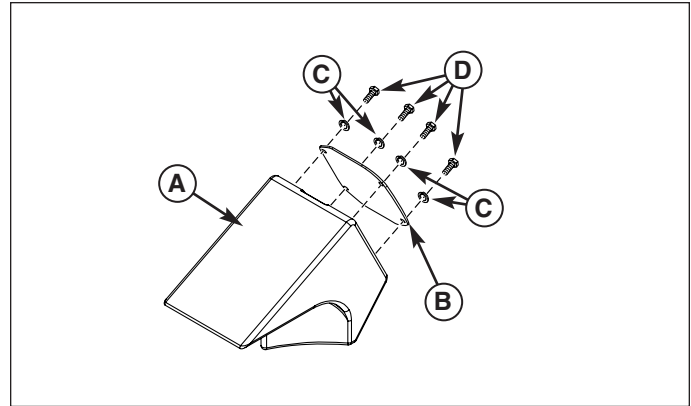

Figure 14. Install Plate to Mulch Plug
1. Secure plate (B, Figure 14) to the mulch plug (A) using 1/4-20 x 3/4 capscrews (D) and 1/4 lockwashers (C).